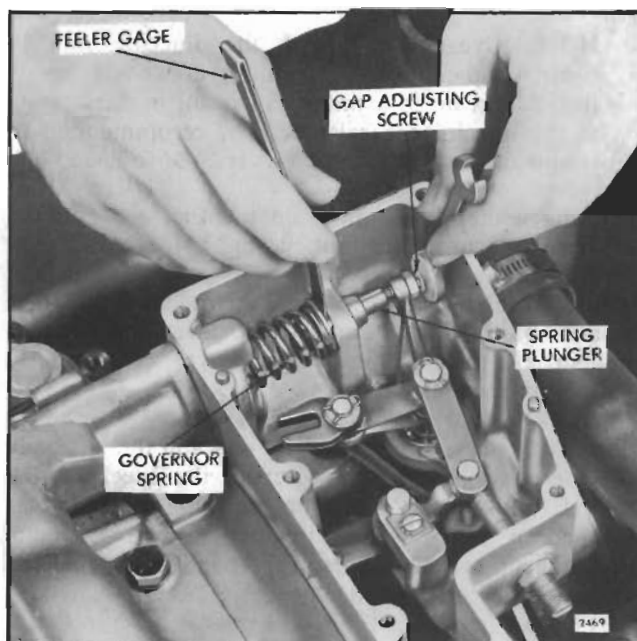

Fig. 1 - Adjusting Governor Gap
5. Insert a .006" feeler gage between the spring plunger and the plunger guide as shown in Fig. 1. If required, loosen the lock nut and turn the adjusting screw until a slight drag is noted on the feeler gage.